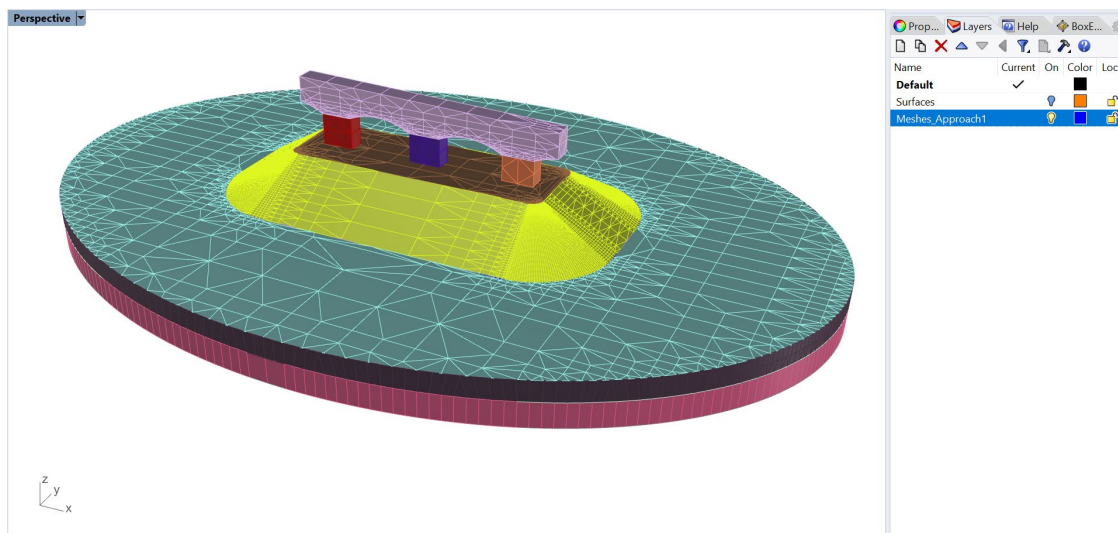
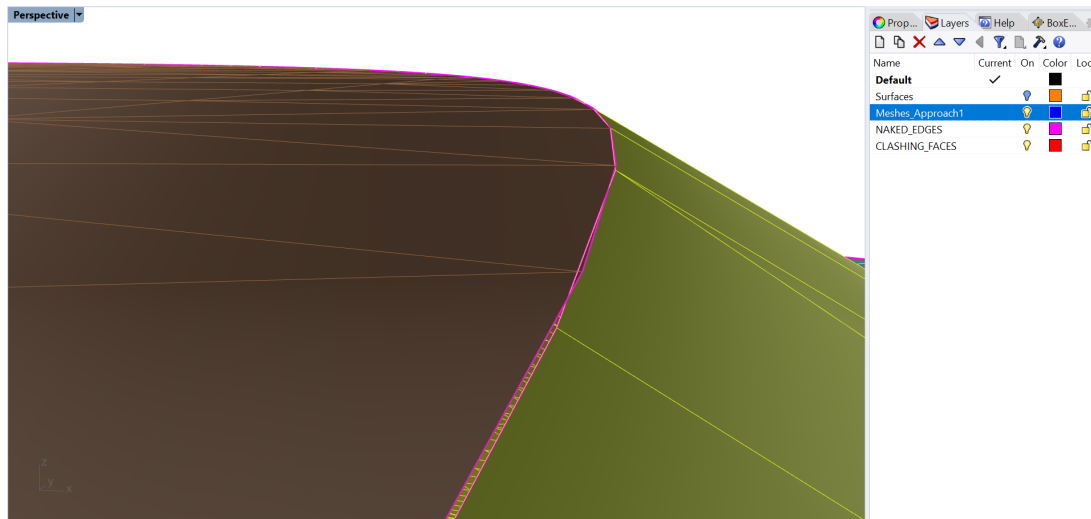

Figure 20: The initial *Rhino* mesh.
Figure 21: Mismatching mesh boundaries in the initial *Rhino* mesh.
The mesh in Figure 20 is not conformal and contains gaps along the curved boundaries (Figure 21). This is due to fact that surface meshes are a discrete representation of the initial analytical (in this case, BRep) surfaces, and the mesh for each object is created independently from any other objects. The gaps and non-conformal faces can be fixed by intersecting meshes using the **Glnt** surface mesh intersector with a properly selected tolerance. Having a watertight surface mesh domain is a required condition for volume meshing. At the same time, making all model meshes fully conformal is usually needed but is not always required for volume meshing (e.g., separate watertight domains must contain conformal surface meshes but the domains themselves may be non-conformal in the areas of contact).
12. Undo the last operations (**\_Hide/\_Show**, **\_GHeal**, **\_GInt**) by pressing **Ctrl+Z** until the initial *Rhino* mesh is shown as in Figure 20.